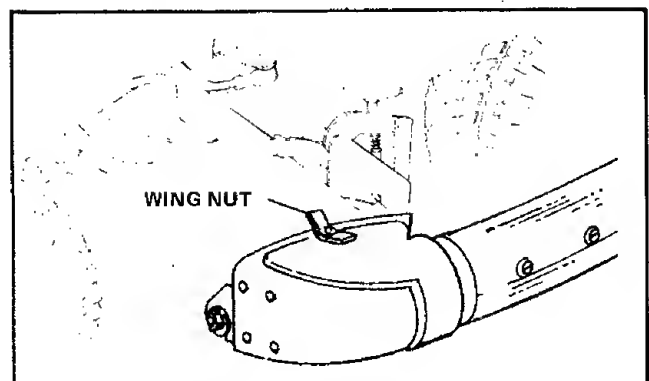

Figure 14. Installing Adapter
4. Place the correct vacuum collector adapter on the mower housing as shown in figure 14. The front slot fits over the spacer just installed, and the top hole fits over the carriage bolt on the top of the mower housing. Place the wing nut on the top carriage bolt and tighten it.